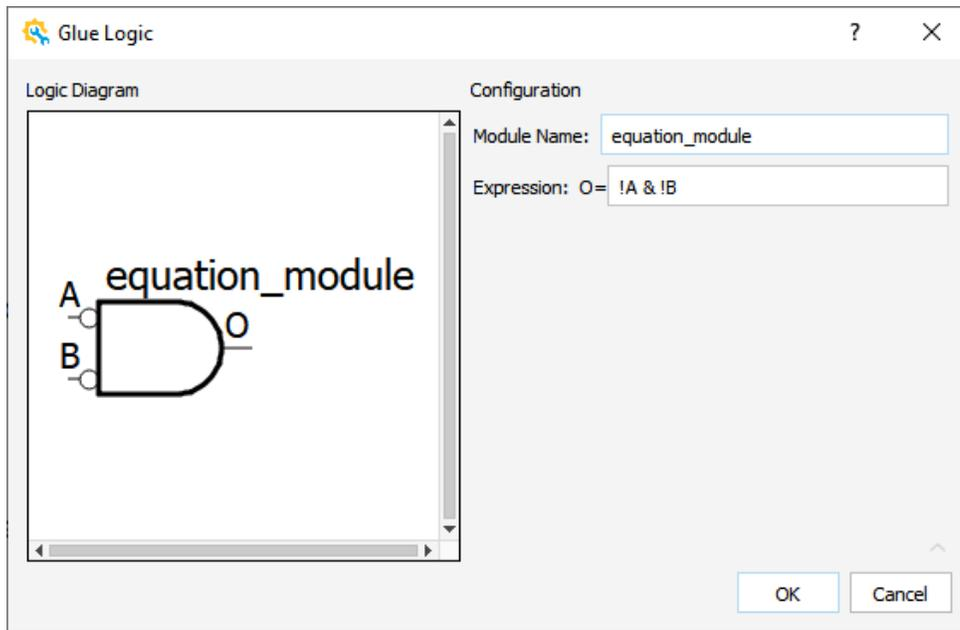

Figure 2.23. Glue Logic Wizard for Equation Module
1. From the IP Catalog, select the **equation** module. Double-click the equation module, or drag and drop the equation module to the Schematic view. A Glue Logic wizard (Figure 2.23) pops up.